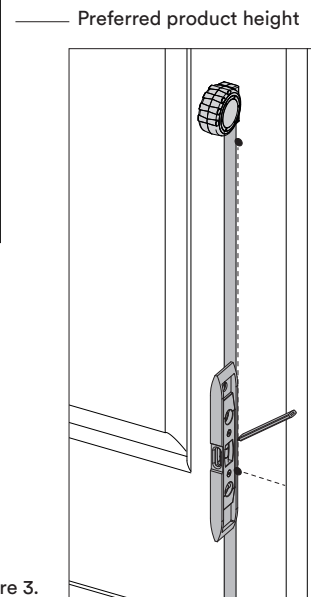

Figure 3.
- 2.3. Using a spirit level, mark the bottom fixing point — noting the CTC measurement. (Figure 3)
- 3.3. Drill 2mm pilot holes for the wood screws at each of the six marks and affix the Taylor spindles to the door with wood screws provided. (Figure 3)